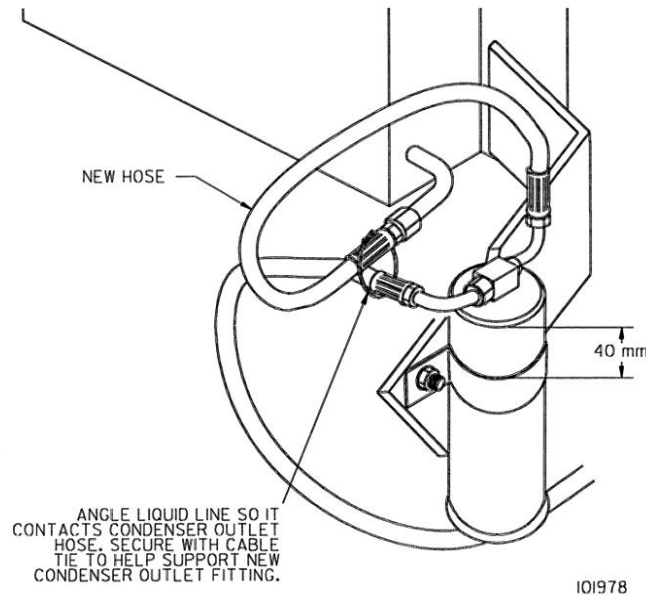

Figure 4
4. Install a new receiver/drier with hoses as shown in Figure 4. New O-rings are supplied. Note that drier is now located on opposite side of mount.